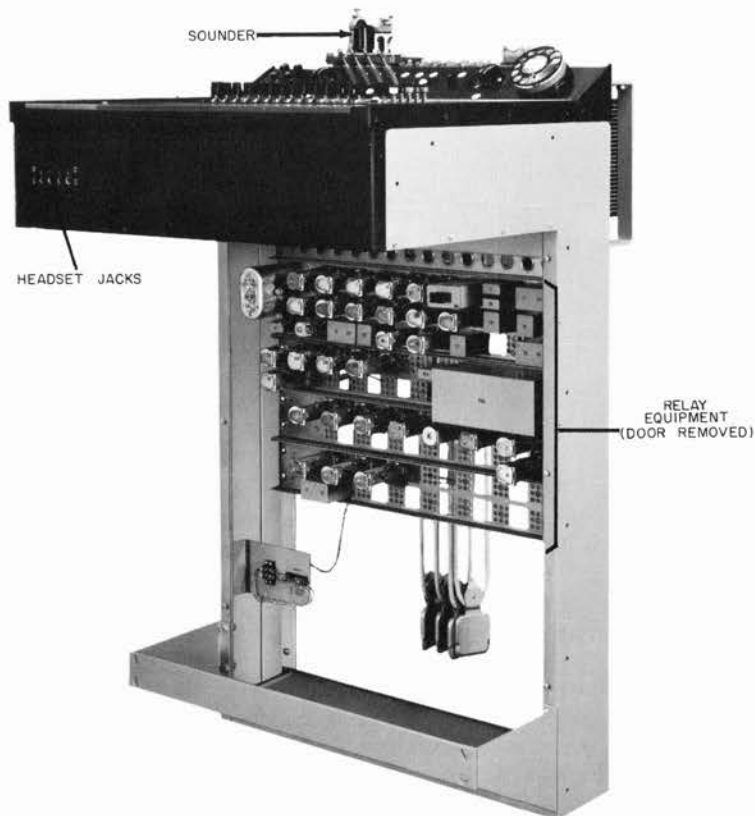
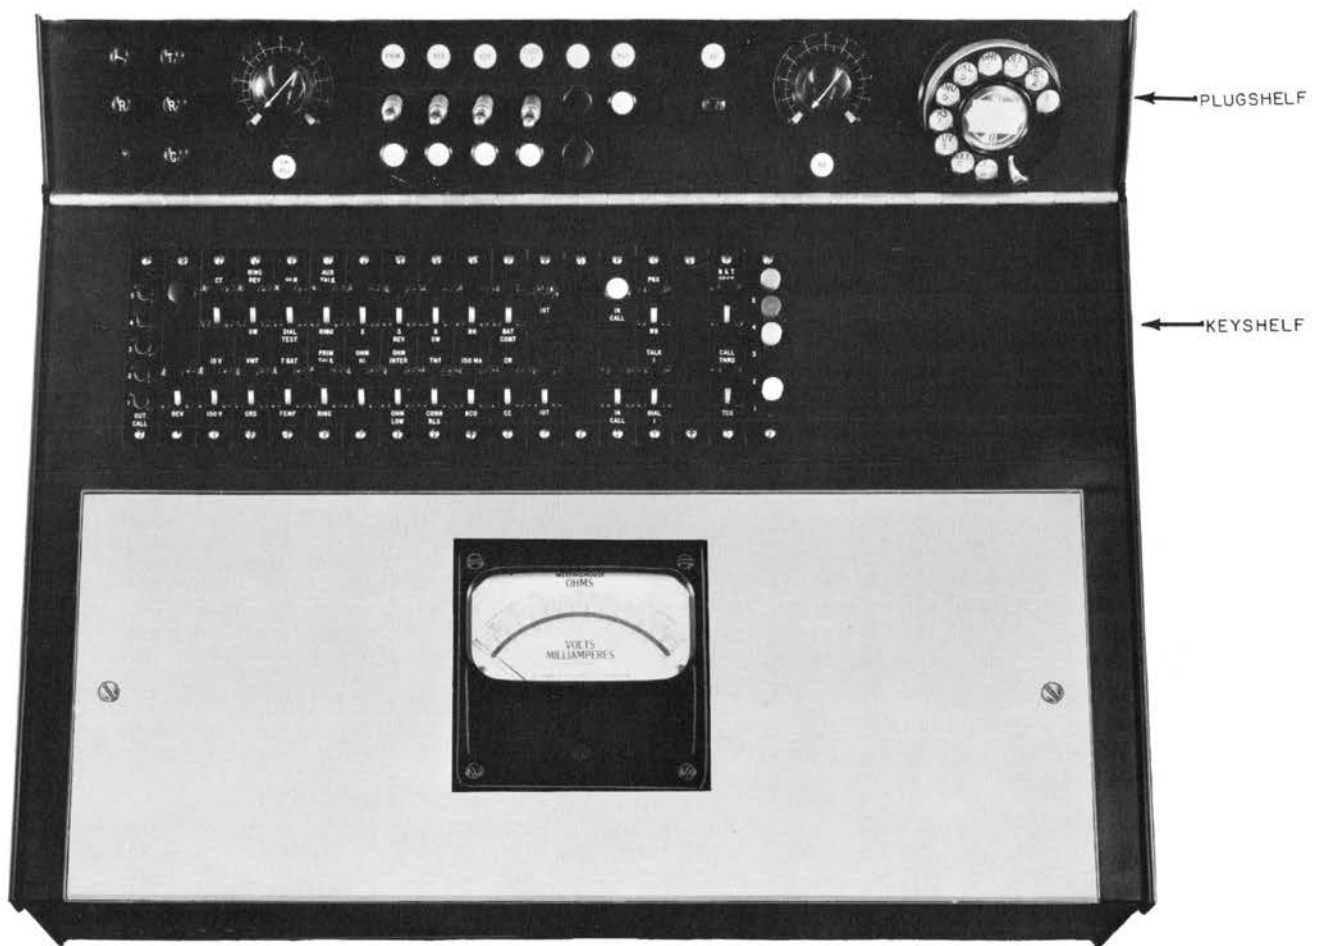

Figure 2. Type 180L Local Test Panel lower unit.
Figure 3. View of keyshelf and plugshelf of Type 180L Local Test Panel.
The lower unit, or attendant's console (figure 2), consists of a metal cabinet with a gray enamel finish. The top of the console is fitted with a plugshelf and keyshelf (figure 3) made of wood and covered with black phenolic fibre. The keyshelf mounts test keys and a volt-ohm-milliammeter. The plugshelf mounts test plugs and supervisory lamps of the primary, auxiliary, and sounder cord circuits, and plugs and supervisory lamps for the single-ended cord circuits (one or two circuits optional). Also mounted on the plugshelf are two rheostats associated with the volt-ohm-milliammeter, a dial, a night alarm key, a howler lamp, and two sets of binding posts. The testing circuit relay equipment mounts on the frame of the lower unit below the level of the keyshelf (figure 2). A door at the front of the console provides access to the relay equipment. Headset jacks are provided in duplicate and are located on the left side of the keyshelf front panel (figure 2).
- a. Keyshelf. The keyshelf of the lower unit (figure 3) is 15-7/8" deep. The top portion mounts the test keys and lamps; the bottom portion mounts the volt-ohm-milliammeter. The designation and function of each key and lamp is described in section 3.3. The
b. Plugshelf. The plugshelf (figure 3) is inclined 30° above the plane of the keyshelf to aid in identifying the equipment mounted on it. Starting from the left the plugshelf contains two vertical rows of binding posts, the first row designated T and R, and the second row designated T, R, and G; rheostat VM ADJ (voltmeter adjustment); cord and lamp PRIM (primary test); cord and lamp AUX (auxiliary test); cord and lamp SDR (sounder test); cords and lamps CORD 1 and CORD 2; howler lamp HLR; night alarm turn key NA; rheostat RH and the dial. The function of each plugshelf component is described in section 3.2.
The Type 180L Local Test Panel lower unit contains a sounder (figure 2) which may be energized by an outside repairman to signal the test attendant over a line connected to the sounder circuit. Exchange dial tone is associated with this circuit as an outgoing signal to a repairman who may need the tone to help him locate a particular pair, etc. A key designated S (sounder) is provided on the keyshelf to allow the sounder test circuit to be connected to the auxiliary test cord. A separate cord for the sounder is provided for those cases where the use of key S would tie up the auxiliary testing circuit.